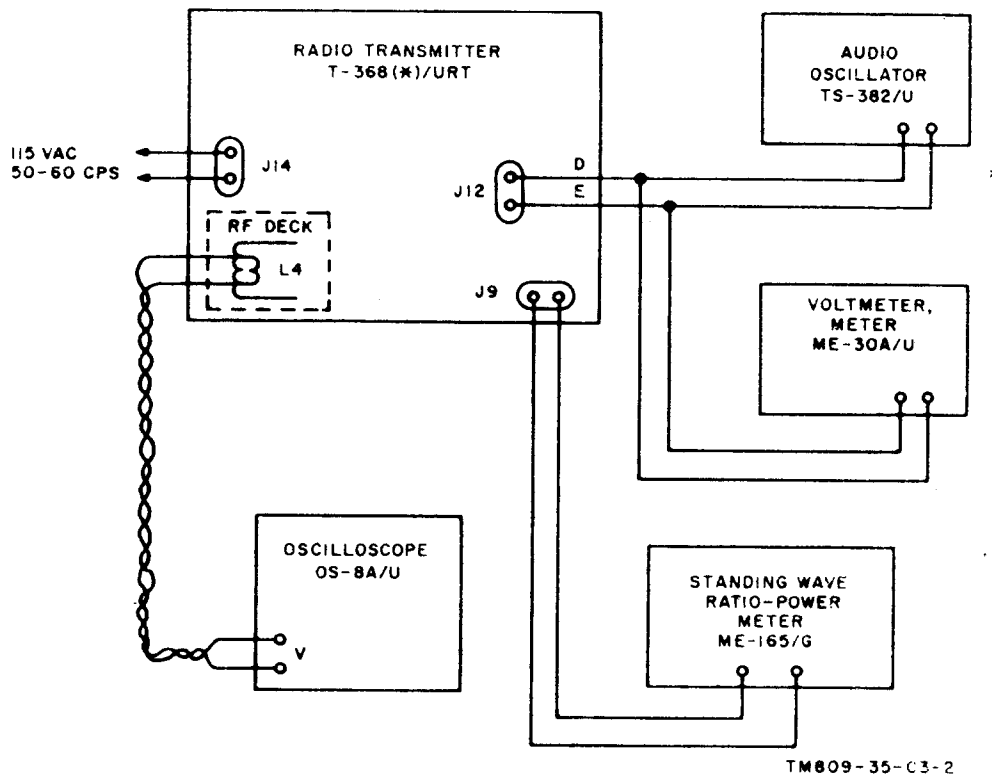

Figure 105. Output power test setup.
Connect the equipment as shown in figure 105.
a. Refer to figure 105 for TS-382/U and OS-8A/U connections. Adjust the TS-382/U for a frequency of 1,000 cycles.
- (1) Set the audio input level to J12 on T-368(*)/URT, from the TS-382/U at -34 dbm. The ME-30A/U will be used to measure the dbm.
- (2) Turn the CARBON MIKE GAIN control R16 fully counterclockwise.
- (3) Vary the 600 OHM LINE GAIN control R17 an indication of 100 percent modulation is obtained on the OS-8A/U.
- (4) Set the audio input level from the TS-382/U at +6 dbm as recorded on the ME-30A/U, and repeat the procedures given in a(2) and (3) above. The OS-8A/U will indicate 100 percent modulation.